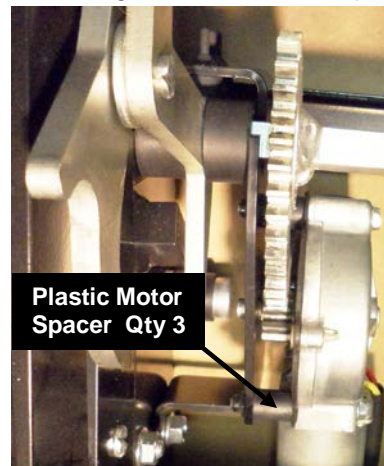
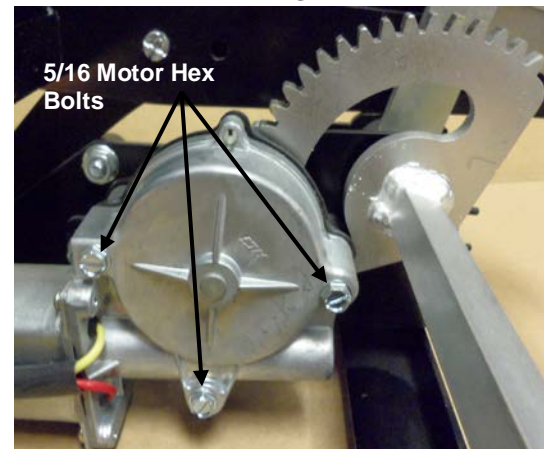

Figure 3
Figure 4
**Step 2:** Removing the motor. The motor is attached to the step frame using three 5/16 hex bolts. On the bottom side of the motor each bolt goes through a plastic motor spacer. These spacers are not attached to the motor and will fall out when the bolt and/or the motor is removed. **Caution: Hold onto each of the three plastic motor spacers when the corresponding bolt is removed. See Figure 3.** Disconnect the motor harness from the motor plug. It may be necessary to use a 5/16" socket with ratchet to break mounting bolts loose, completely remove the bolts. **See Figure 4.**